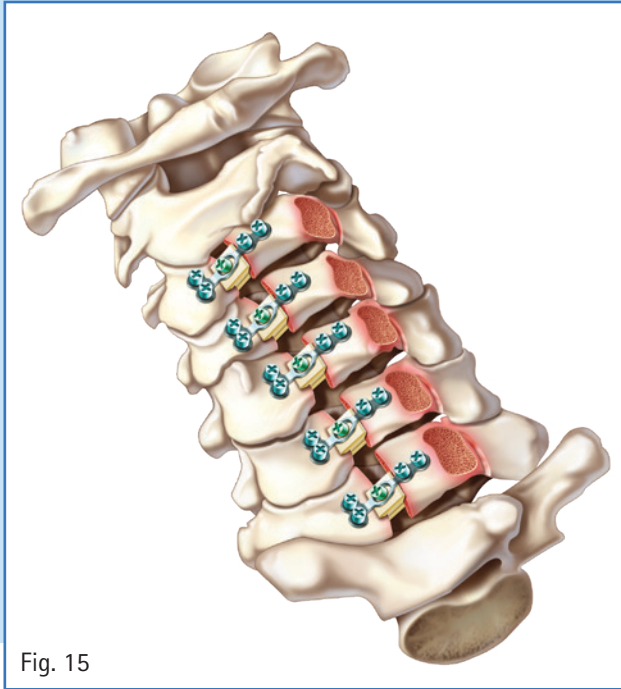

Fig. 15
**IX. Repeat previous steps at adjacent levels as necessary (Fig. 15)**